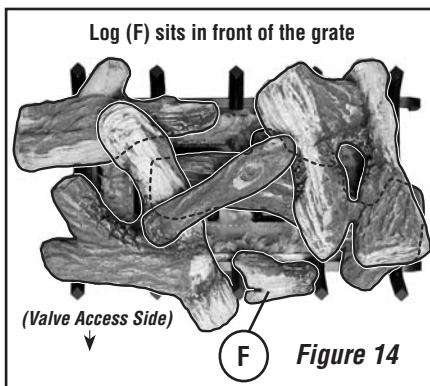

**Figure 12**
10. Place Log (D) as shown in **Figure 12**.